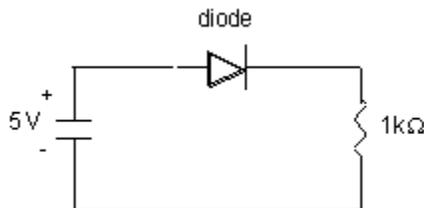

Figure 5. Series resistor-diode circuit.
9. Find a low-current diode (1N914 or equivalent; **not** a light-emitting diode) in the lab component drawers. Examine it and determine how it is marked to distinguish the two ends. Use the diode to assemble the circuit shown in Figure 5. Measure the current in the loop and the voltages across the diode and the resistor, then reverse the way the diode is connected into circuit (that is, reverse which lead of the diode is connected to the power supply and which lead to the resistor) and repeat the measurements. Which way do you think would be called forward biased and which would be reverse biased?